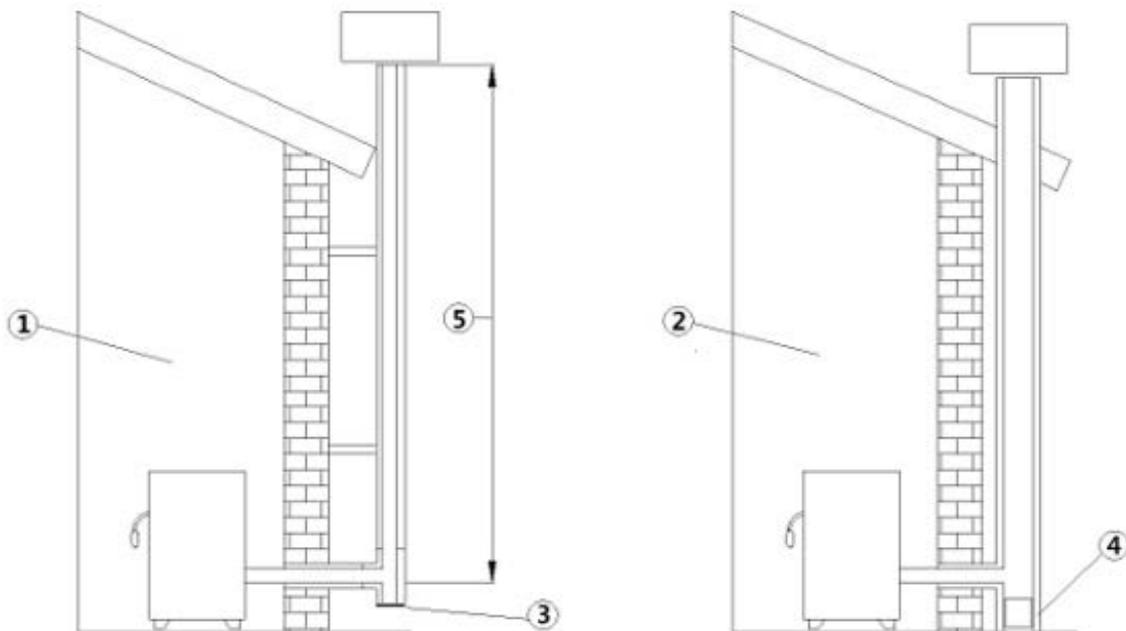

Fig. 1 - Chimney Flues
LEGEND	Fig. 1
- The chimney flue must be sole (see **Fig. 1**) with insulated stainless-steel pipes (1) or installed on the existing chimney flue (2).
- Both this solutions must be endowed with an inspection plug (3) and/or an inspection door (4).